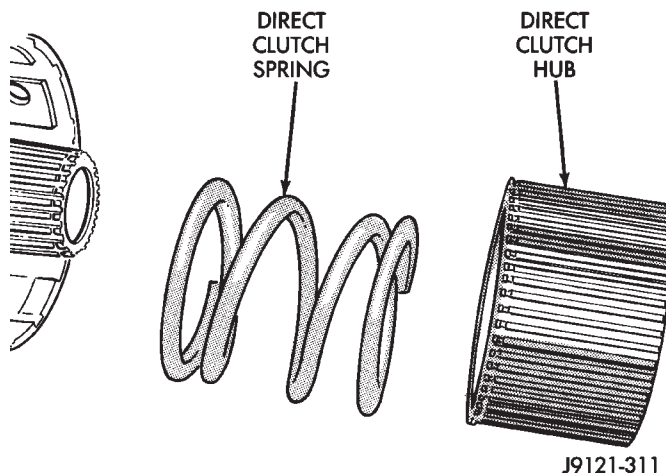

Fig. 266 Direct Clutch Hub And Spring Removal
(1) Remove direct clutch hub and spring (Fig. 266).